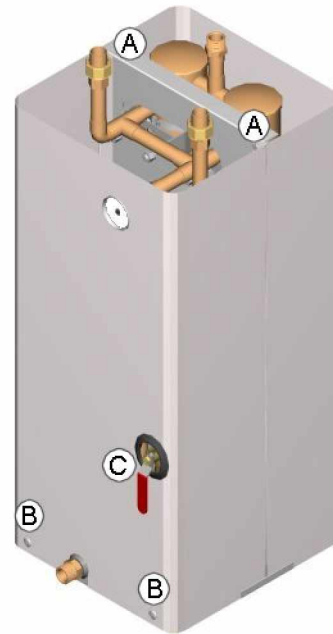

Figure 1
3. SETUP – Remove the front cover by removing the lid and removing the fasteners as shown in Figure 1.